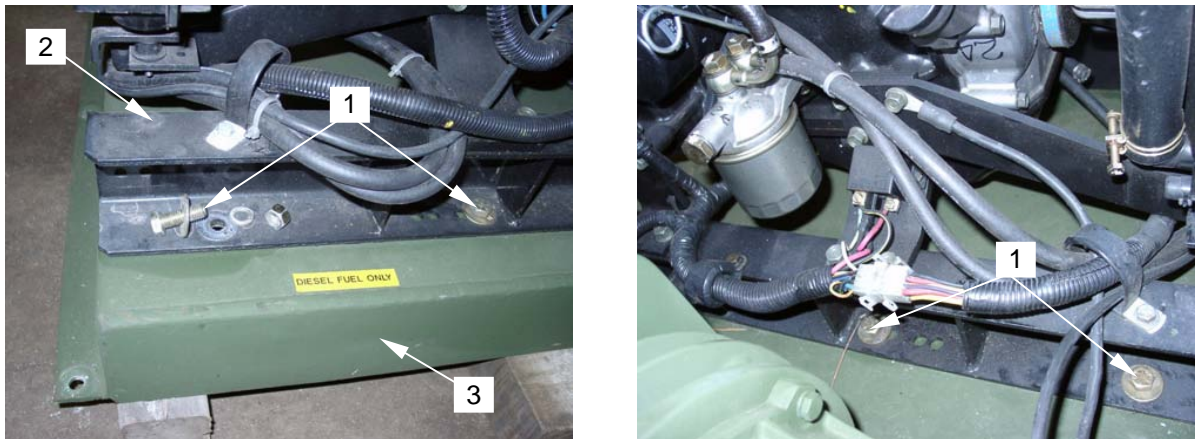

Figure 27. Removing Engine Mounting Hardware
17. Remove the engine mounting bolts, nuts and flat washers (**figure 27, item 1**) that secure the engine (**figure 27, item 2**) frame to the skid (**figure 27, item 3**).